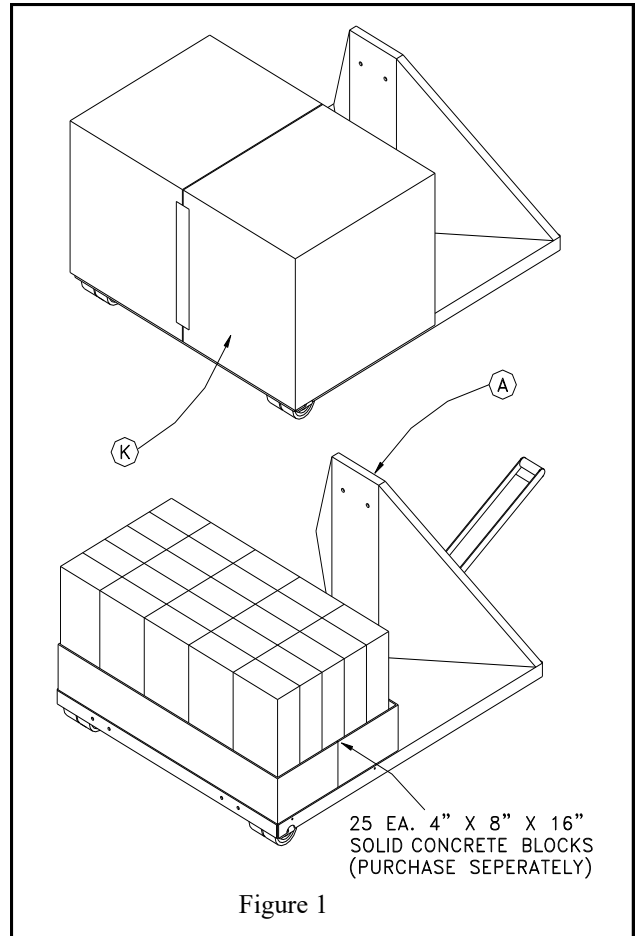

Figure 1
1. The roll around *Base Assembly* (A) is shipped pre-assembled and ready for installation of the 4" square pole system, backboard and goal. See Figure 1.
2. Make sure the *Base Assembly* (A) rolls freely by pulling outward on the handle in the center of the front triangle. This will engage the front caster and allow easy movement. When the handle is returned to its front feet, it is ready for play. These feet have been factory leveled, however they are adjustable if necessary. See Figure 1.
3. Stand 25 each 4" X 8" X 16" solid concrete blocks (850# not provided) on the base and install the *Weight Cover* (K). DANGER! Do not proceed with assembly until the weights are installed. See Figure 1.